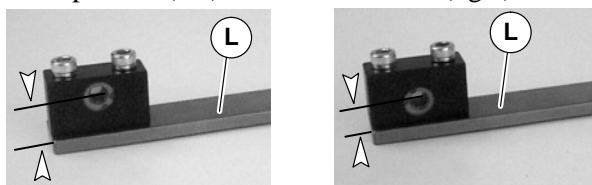

Figure 12
2. Check bearing support assembly (L of Figure 12) setup: 2100 (left) and 4100 or 6100 (right).